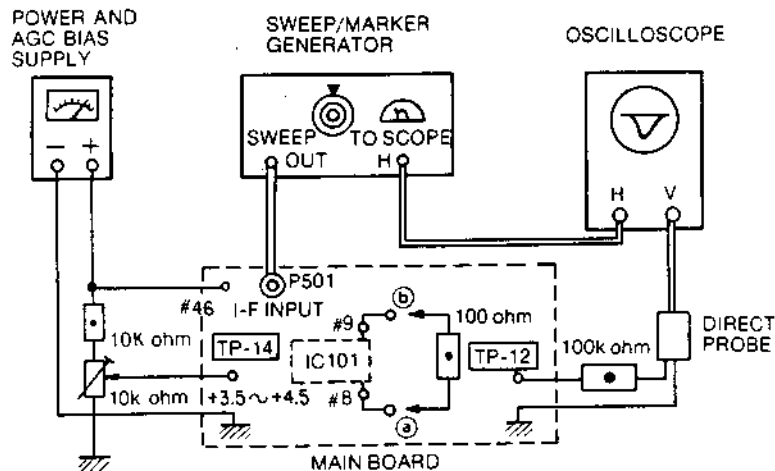

Figure 18. Picture I-F Sweep Alignment
- GENERAL..... Refer to figures 18 and 19 for test equipment connection and alignment points.